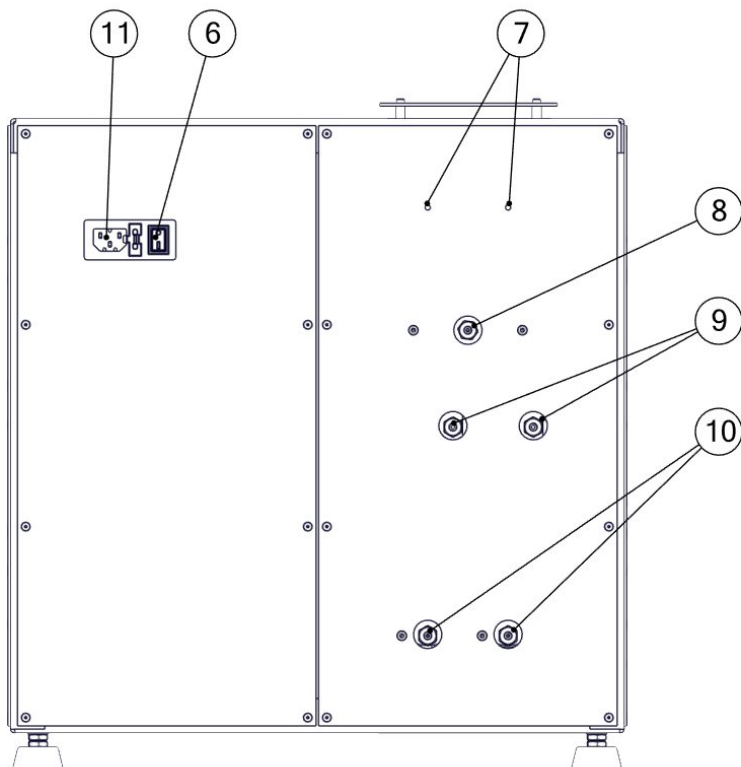

Figure 7-3 - Rear View
1. Turn the Wet Tensile Strength Tester off by switching the rocker switch located on the back of the machine (Figure 7-3, Item 6) to the OFF position.
5. Remove the plastic cover caps on both oil drain connectors located on the back side of the machine (Figure 7-3, Item 10).
12. Remove the plastic cover caps on both oil inlet connectors located on the back side of the machine (Figure 7-3, Item 9).
14. Replace the plastic cover caps on both oil inlet connectors (Figure 7-3, Item 9) located on the back side of the machine.
1. Turn the Wet Tensile Strength Tester off, wait a few seconds and turn it back on by switching the rocker switch located on the back of the machine (Figure 7-3, Item 6) to the OFF and ON position.
2. Turn the Wet Tensile Strength Tester on by switching the rocker switch located on the back of the machine (Figure 7-3, Item 6) to the ON position.